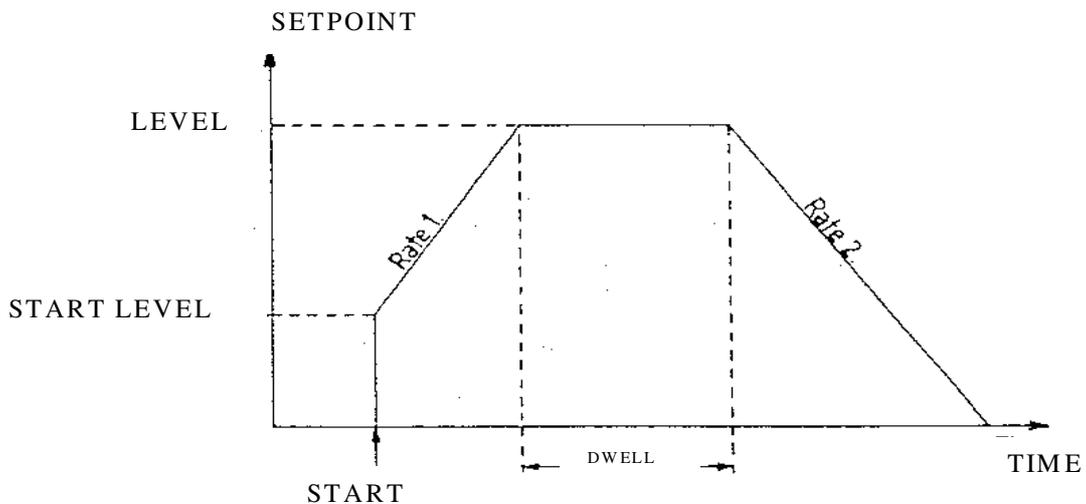

FIG.2
4.1 The P250A generates a setpoint temperature-time profile as illustrated in Fig 2. This is set as follows:-